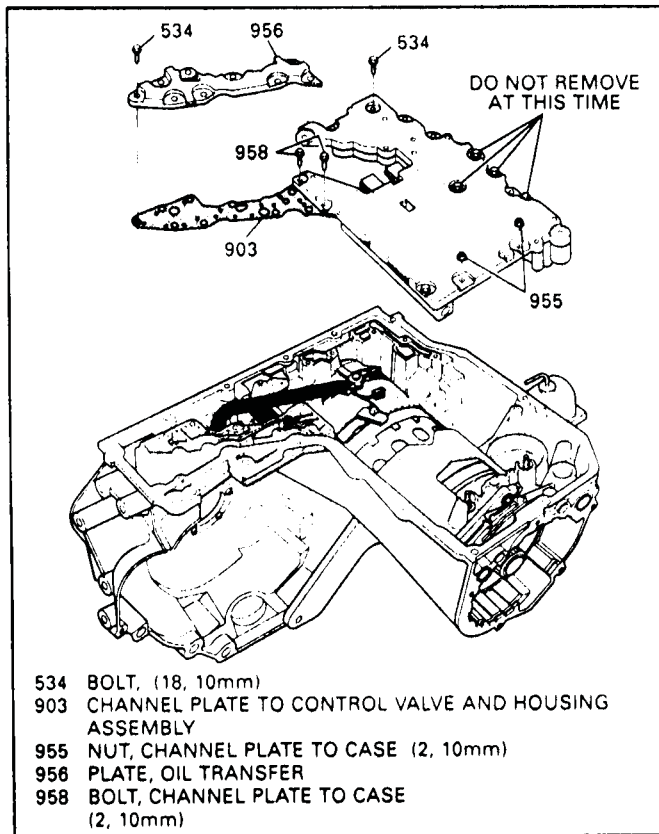

Figure 47
7. Remove nine 10mm bolts from the oil transfer plate (See Figure 47).
10. Remove two 10mm bolts(958) and two 10mm nuts(955) from lower valve body assembly as shown in Figure 47
11. Remove nine 10mm bolts from lower valve body assembly as shown in Figure 47.
12. DO NOT remove the four bolts indicated in Figure 47 at this time.
13. Lift lower channel plate, valve body assembly and accumulator assembly from case as a single unit and set aside. (See Figure 47).